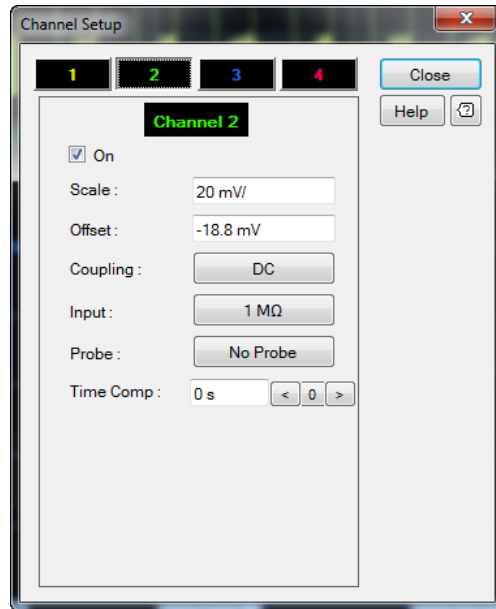

Figure 2-9 Video input Channel Setup dialog
- For the video input channel, the Channel Setup dialog is displayed as shown in Figure 2-9.